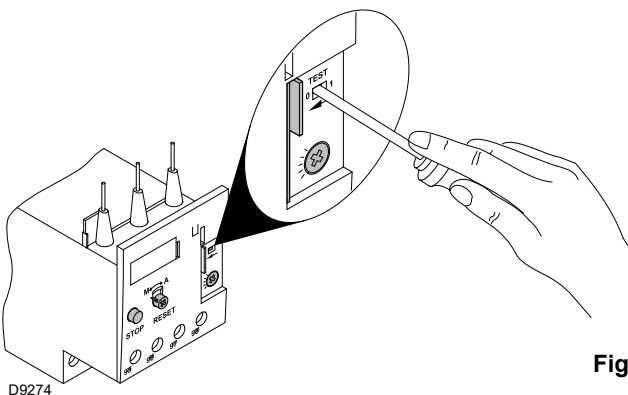

Fig. 39
- To test the thermal relay, insert a screwdriver in the window "TEST" (Fig. 39) and move it in the sense of the arrow (towards right).